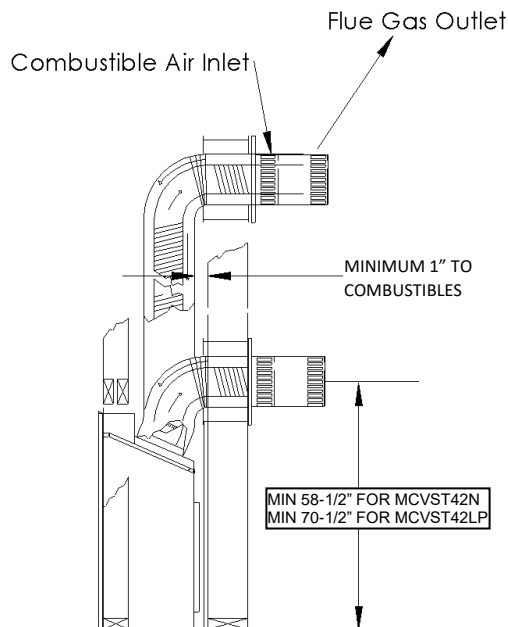

Figure 1
The intensity of the output can be adjusted through six (6) levels. Use the Up/Down Arrow Keys (Fig.1) adjust the output level (fig. 16). A single "beep" will confirm reception of the command.
Place the spring spaces provided approximately every two feet to stabilize 5" flex in the center of 8" flex. When forming bends place spring in bend or before and after. (See Fig. 1). Horizontal runs require support metal straps every 2 feet. In offset installation support straps should be used to stabilize pipe.
Expand 5" and 8" flex pipe to the point that the 8" protrudes approximately 2 to 3 inches past outer wall and the 5" flex protrudes approximately 2 to 3 inches past the 8" flex. (See Fig. 1). Attach the 5" pipe to the termination first and secure with sealant and screws then attach the 8" flex to the termination with caulking and screws. Termination may then be moved back to the outer wall and attached to home screwing into the framing. Silicone around termination to waterproof. If siding shield is going to be used attach this using same attaching hole as the top of termination after termination has been caulked for water proofing.
4. To install wall thimble center over 12" x 12" (inch) framing from both sides of wall and secure. Route flex vent pipe through wall thimble (See Figure 1).
8. Support horizontal pipes every two (2) feet (61 cm) with metal strap bands. Re-check fireplace to make sure it is levelled and properly positioned and secured.